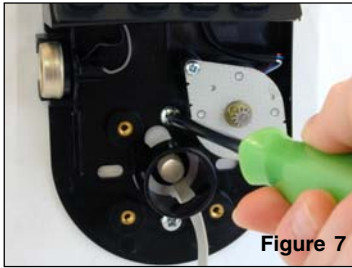

Figure 7
4. Attach the keypad/base assembly to the container door using the two #8-32 (or M4-0.7) mounting screws. (Figure 7) Do not fully tighten screws.